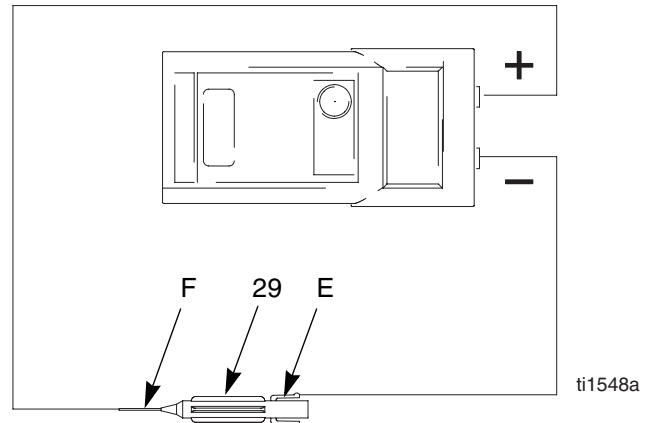

Fig. 20. Electrode
5. Remove the electrode (29), page 43. Measure the resistance between the contact (E) and the electrode wire (F). The resistance should be 20-30 megohms. If out of range, replace the electrode. See FIG. 20..